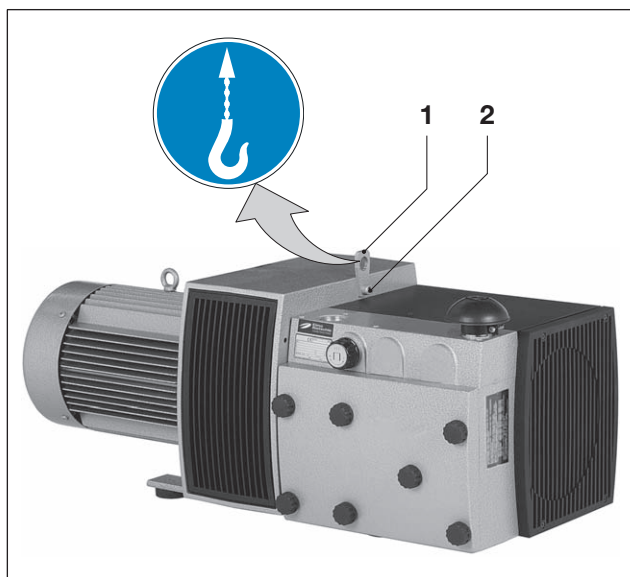

Fig. 1/1 Lifting and transporting
- a) Tighten the fixing screw (Fig. 1/2) tightly to the transport shackle (Fig. 1/1) .